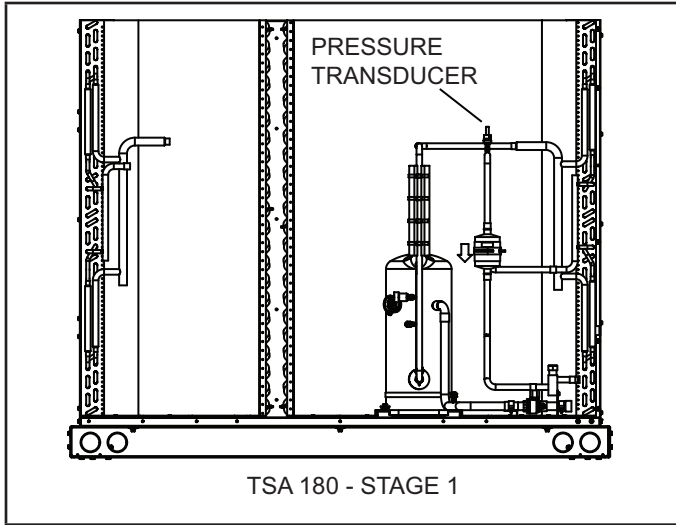
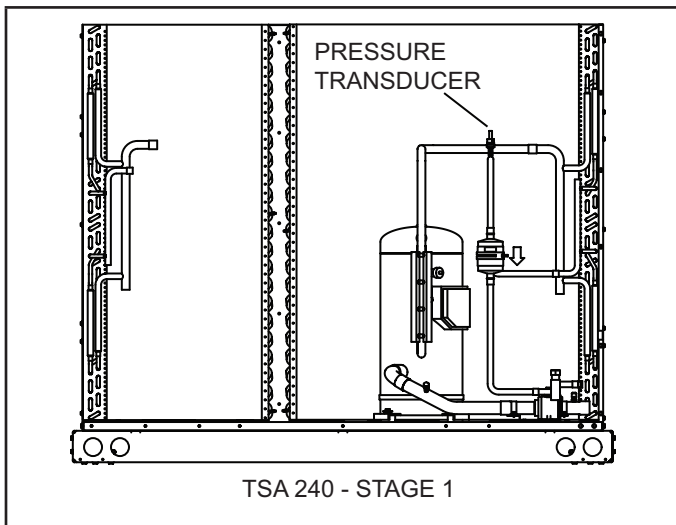

FIGURE 2. Pressure Transducer Location – TSA 180 Stage 1
FIGURE 3. Pressure Transducer Location – TSA 240 Stage 1
- 7 - Install the pressure transducer (ICM380) to the valve core of the valve depressor on the stage 1 liquid line. (For TSA 180, refer to figure 2; for TSA 240, refer to figure 3.)